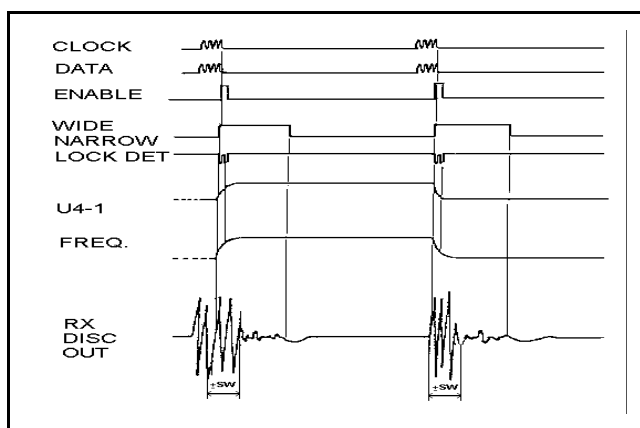

Figure 7 - Channel Switching Sequence
- b. The channel switching sequence and the action of the related functions are shown in Figure 7.